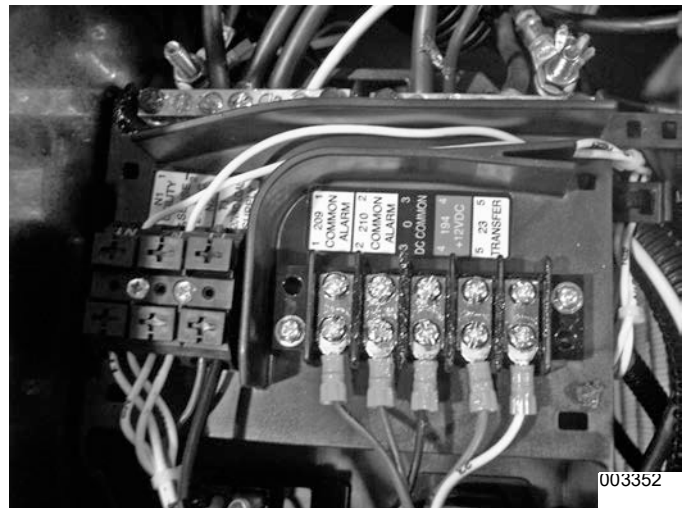

Figure 4-6.
5. **Remove Control Wires:** See Figure 4-6. Remove Wires N1, N2, T1, 0, 194, 23, GFCI Outlet, and unit status lights from the control box.